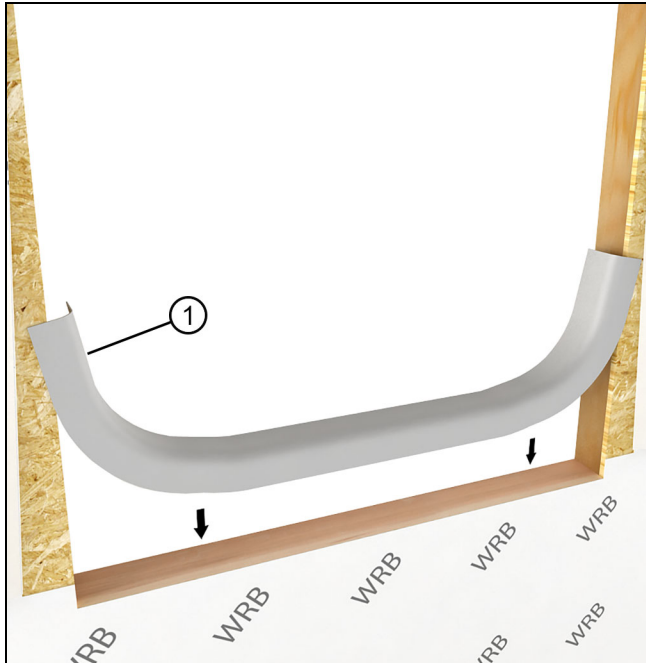

Figure 9
5. TYPE III Sill Pan Flash: Apply self sealing flexible membrane slope. See Figure 9.